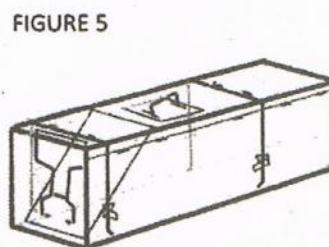

FIGURE 5
4. The trap should now be ready to connect the trap door to the foot plate. (Figure 5)